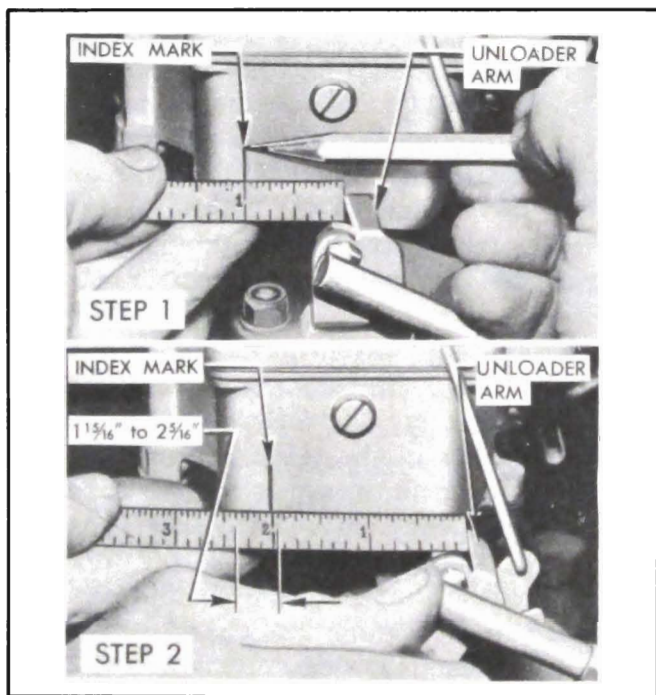

Figure 10-30—Checking Carter Accelerator Vacuum Switch Timing
3. While holding throttle valve fully closed, place a scale against choke unloader arm of throttle lever and make an index mark on float bowl at the one inch division on scale. See figure 10-30, step 1.
5. If switch is correctly timed, the scale will then read between  $1\frac{15}{16}$ " and  $2\frac{5}{16}$ " at mark on fuel bowl ( $1\frac{5}{16}$ " to  $1\frac{1}{16}$ " travel of arm). See figure 10-30, step 2.